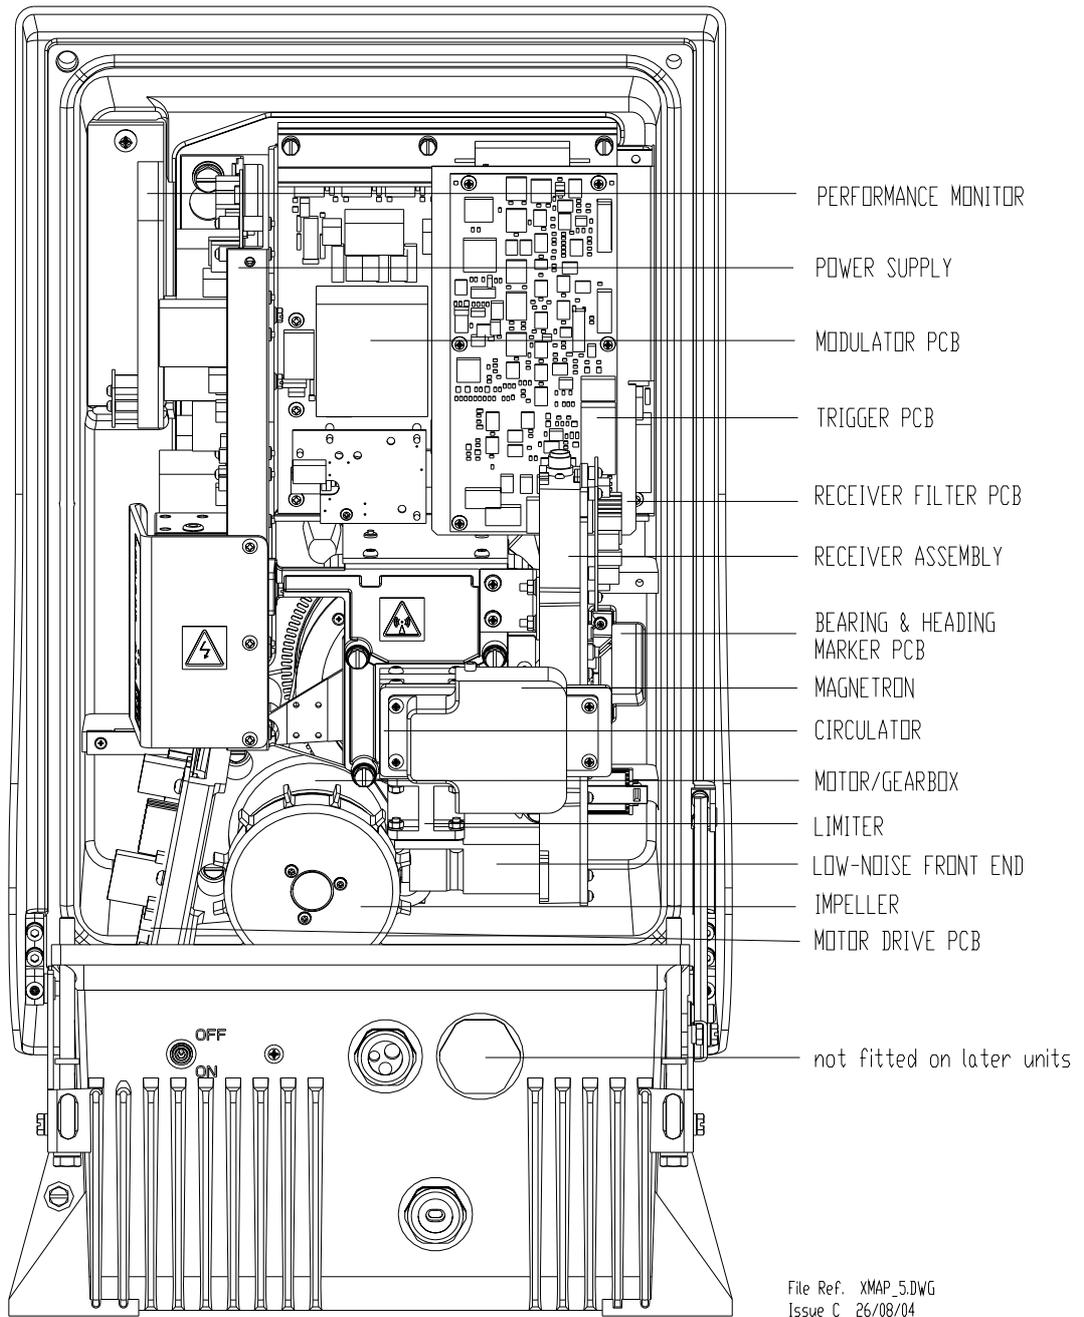

Figure 6.31. X-Band Masthead Turning Unit – View showing Main Assemblies
6. Remove the three bolts (as shown in Figure 6.31) that retain the waveguide transition support casting to the rotating joint.